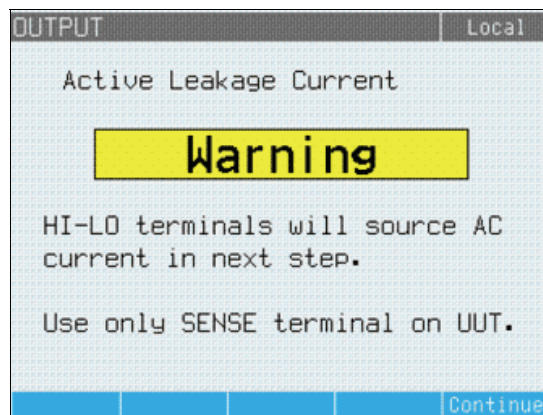

Figure 4-12. Active Leakage Current Warning Message
Unlike passive, substitute, and differential leakage current modes for which the Calibrator acts as a resistance decade, the Calibrator acts as a current source for the UUT in the active current mode. The current source can have a maximum voltage between 50 and 100 volts. Therefore, as a reminder to the user that voltage will be present at the output terminals during the calibration, the message shown in Figure 4-12 is displayed whenever the active leakage current mode is selected.
3. Using the cursor keys or rotary knob, highlight the **Active** selection and either press the **Select** softkey or press in on the rotary knob. The warning message shown in Figure 4-12 will be displayed.